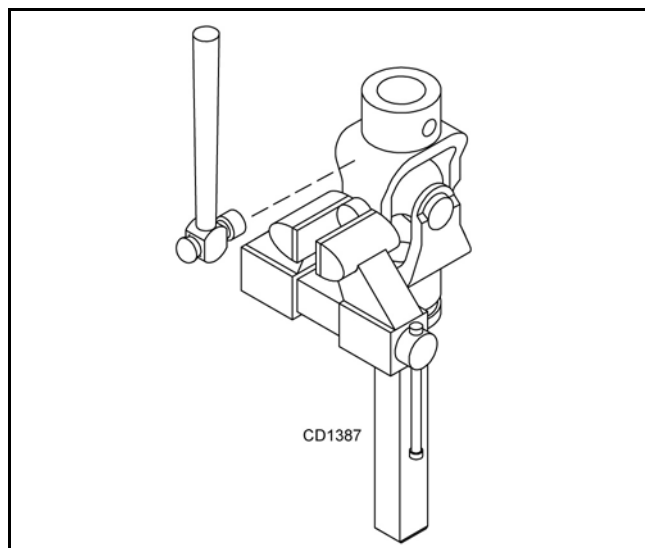

Figure 21
3. Clamp cup in vise as shown in Figure 21 and tap on yoke to completely remove cup from yoke. Repeat step 2 and step 3 for opposite cup.